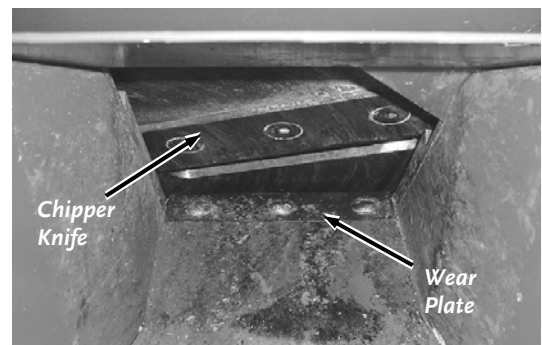

Figure 33
4. Closely inspect the Chipper Knife and Wear Plate for nicks or dull (rounded) edges (**Figure 33**).